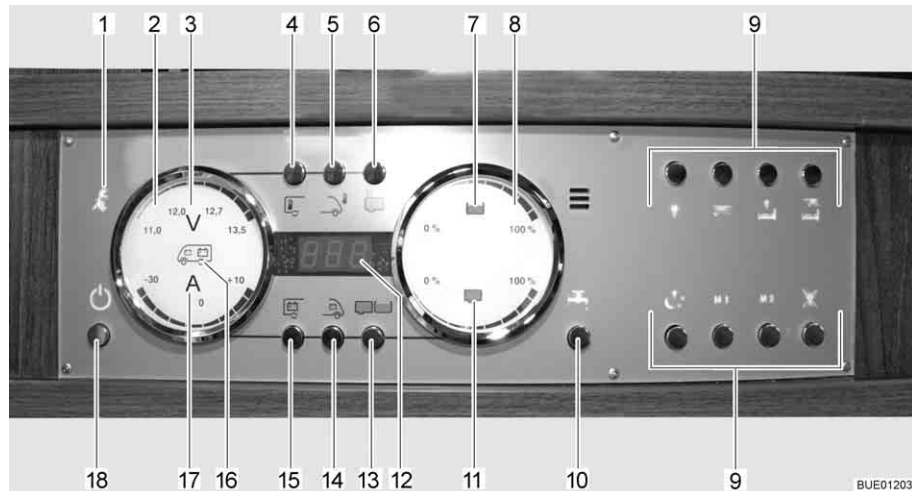

Fig. 118 Panel LT 510
The 230 V indicator lamp (Fig. 118,1) illuminates whenever line voltage is available at the transformer/rectifier input.
The 12 V main switch (Fig. 118,18) switches the panel and the 12 V power supply of the living area on and off.
- Briefly press the 12 V power supply button (Fig. 118,18). The 12 V living area power supply is switched on. The "12 V" indicator lights up.
- ▷ If, after switching on, the "11.0" LED of the volt indicator and the "V" volt symbol (Fig. 118,3) in the batteries gauge (Fig. 118,2) flash, the voltage of the living area battery is too low. Charge battery.
- ▷ If, after switching on, the "12 V" indicator and the "V" volt symbol (Fig. 118,3) flash three times, battery separation is activated. Deactivate battery separation.
- Briefly press the 12 V power supply button (Fig. 118,18). The 12 V living area power supply is switched off. The "12 V power supply" indicator goes out.
- Press button for living area battery (Fig. 118,15) and hold it down for approx. 10 seconds. The "V" volt symbol (Fig. 118,3) and the "12 V" indicator flash three times. The living area battery is disconnected from the 12 V power supply.
- Press the 12 V power supply button (Fig. 118,18) and hold it down for approx. 5 seconds. The "V" volt symbol (Fig. 118,3) and the "12 V" indicator flash three times. The living area battery is connected to the 12 V power supply. The indicator lights up after approx. 5 seconds.
- Press button for living area battery (Fig. 118,15). The "V" volt symbol (Fig. 118,3) lights up. Depending on whether the battery is being charged or discharged, the "A" ampere symbol (Fig. 118,17) lights up white or red respectively. The battery voltage and current of the living area battery are displayed using the LEDs in the gauge.
- Press button for starter battery (Fig. 118,14). The "V" volt symbol (Fig. 118,3) lights up. The battery voltage of the starter battery is displayed using the LEDs in the gauge.
- Press tanks button (Fig. 118,13). The water tank (Fig. 118,7) and waste water tank (Fig. 118,11) symbols light up. The fill levels of the water tank (upper scale) and of the waste water tank (lower scale) are indicated using the LEDs in the gauge.
**Tank alarm** The water tank symbol (Fig. 118,7) or waste water tank symbol (Fig. 118,11) flashes when the water tank is empty or the waste water tank is full.
The internal and external temperatures can be indicated using the digital display (Fig. 118,12).
- Press the button for the internal temperature (Fig. 118,4). The internal temperature is displayed.
- Press external temperature button (Fig. 118,5). The external temperature is displayed.